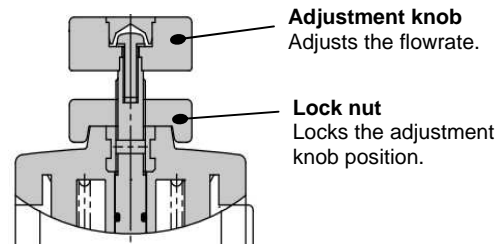

Fig.3 - Flow-rate adjuster
4.2 Flow rate adjuster (fig.3)